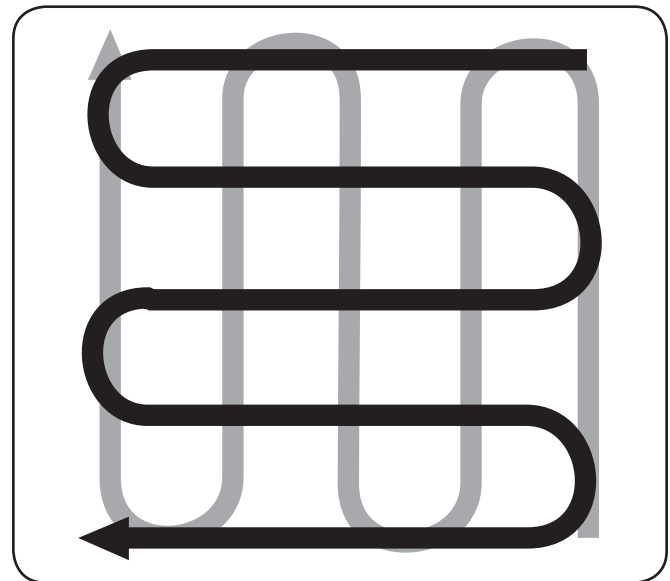

Figure 5-6
- When finished in one direction, make a second pass at a right angle, as shown in Figure 5-6. Overlap each pass for best results (in very hard ground, it may take three or four passes to thoroughly pulverize the soil.)